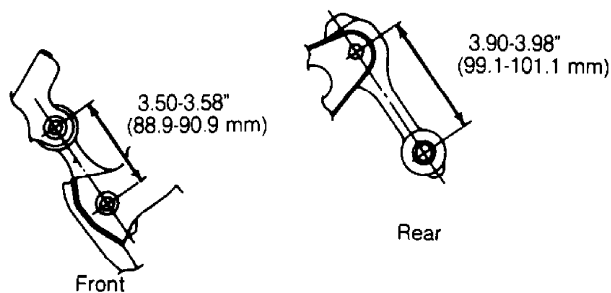

Fig. 2: Adjusting Length of Buffer Rods (Maxima)
2) On Maxima, ensure length between buffer rod bolts is 3.50-3.58" (88.9-90.9 mm) for front buffer rod and 3.90-3.98" (99.1-101.1 mm) for rear buffer rod. See Fig. 2. On all models, briefly run engine and check for fluid leaks.